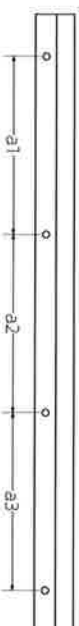
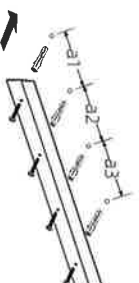

Fig.1
Fig.2
- ① Open the product packaging, and check whether the product has any exception or functional damage; if yes, please return it to the dealer.
- ② After selecting the location of the mirror cabinet, check whether the wall is solid, measure the distance of the holes (a1, a2, a3) in the aluminum alloy bar with a tape measure and mark the wall with a level and pencil (Fig. 1).
- ③ Drill holes in the marked position with electric drill and φ4 drill bit, and use special ceramic drill if the wall surface is ceramic tile.
- ④ Knock the expansion plugs into the holes in the wall with a hammer, and then tighten the screws with a screwdriver to fix the bar, and calibrate the level with a spirit level (Fig. 2).